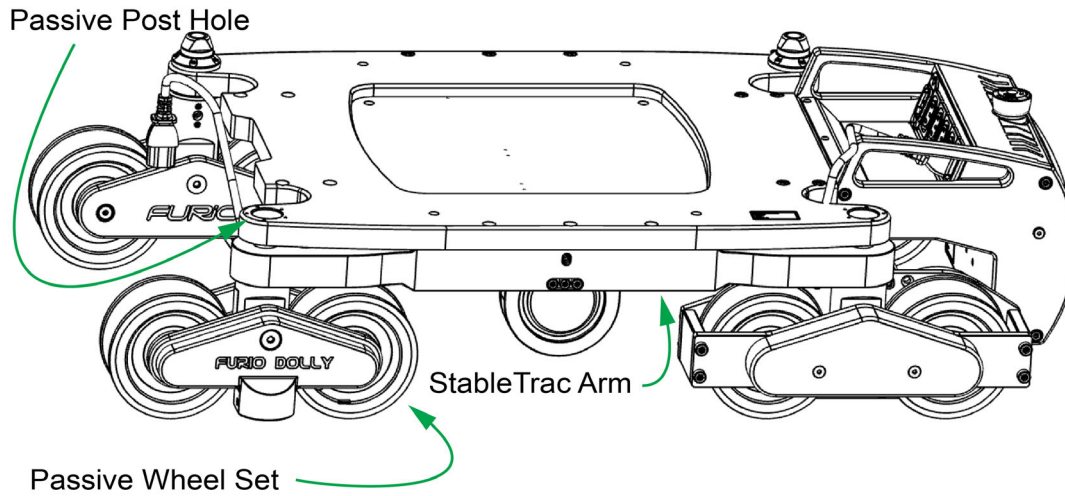

Figure 25 - Passive Wheel Attachment with StableTrac
2. Thread the vertical post of the passive wheel set into the threaded hole on the StableTrac arm (refer to **Figure 25**).